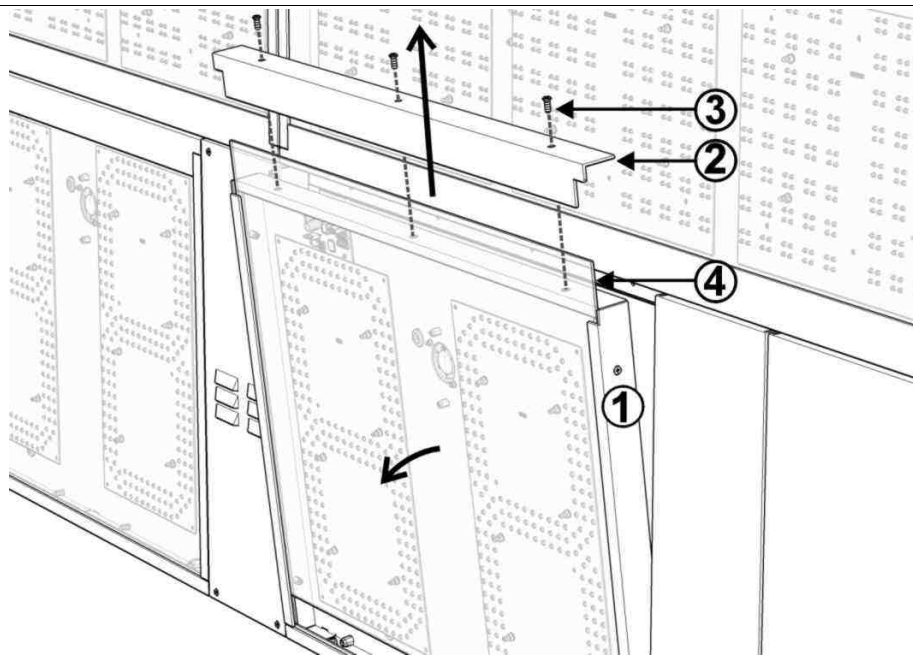

Fig. 21: Blocking profile of the transparent front panel
- b) tilt the module forward slightly so that the screws of the top profile of the transparent front piece stick slightly out (Fig. 21).
3. Unscrew the fastening screws and remove the top profile blocking the transparent panel (Fig. 21).